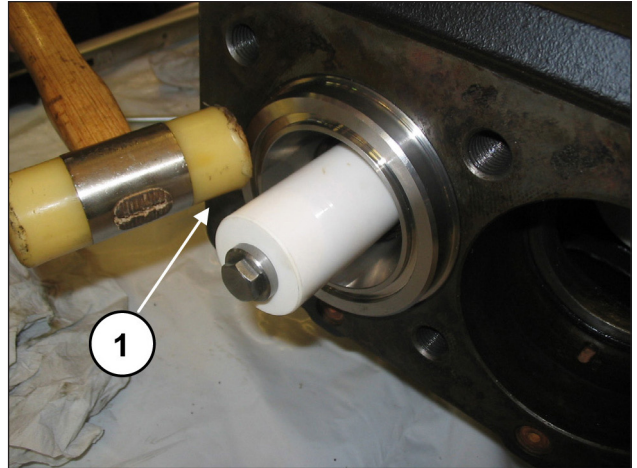
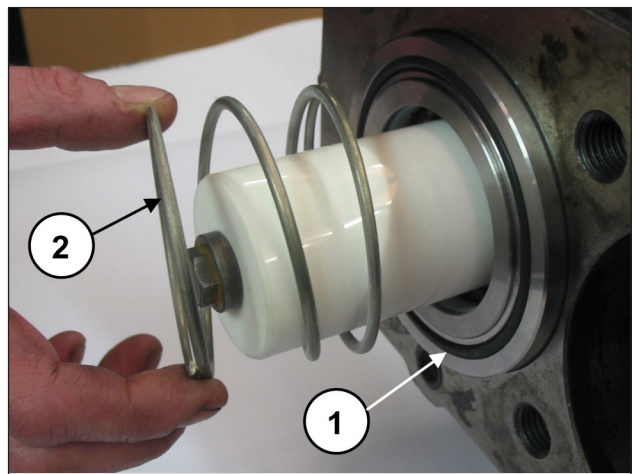

Fig. 181
Fig. 182
Ensure that the liner-support block is positioned correctly down to the bottom of the housing (pos. ①, Fig. 181); now mount the front O-ring of the liner and the spring (pos. ①②, Fig. 182).